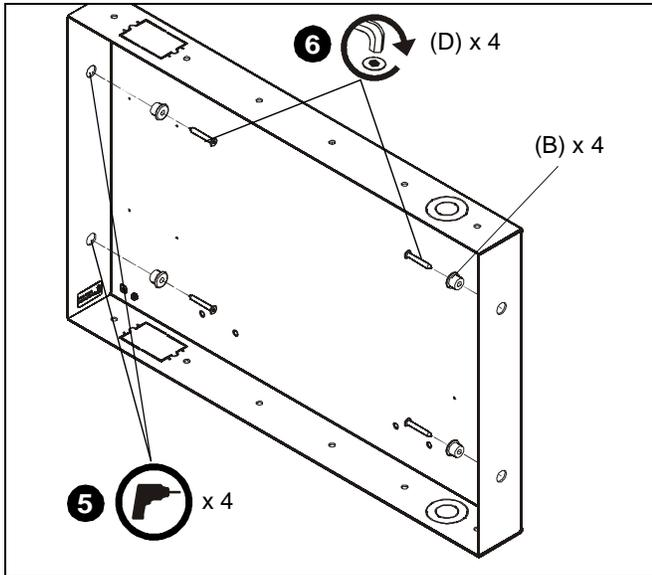

Figure 4
5. Drill four 3/16" diameter pilot holes in studs at side mounting holes. (See Figure 4)
6. Attach the TA500 (A) to side studs using four M7 x 50mm Allen head connector screws (D) and mounting spacers (B) using an M4 Allen head drill bit (F). (See Figure 4)